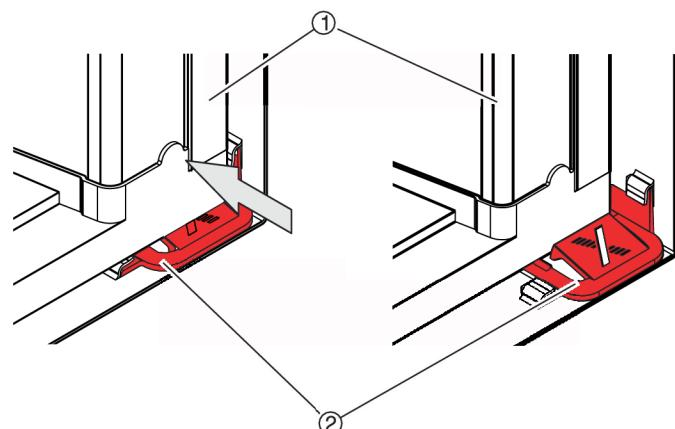

Fig. 22: Securing the filter element
6. ▶ Slide the filter element (Fig. 22/1) in further over the clips (Fig. 22/2) until the filter element clicks into place.